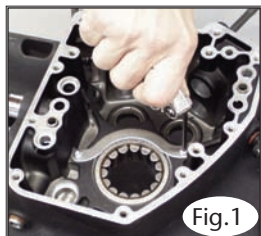

Fig.1
1. Be sure the Torx screws (2) and bearing plate have been removed (Fig.1), place the support tool No.1146 on the press table with remover side facing up (laser marked "REMOVER SIDE") With the Cam side of motor case facing down (flywheel side of motor case facing up) Position the old Bearing to be removed over the support's bore side of Tool.